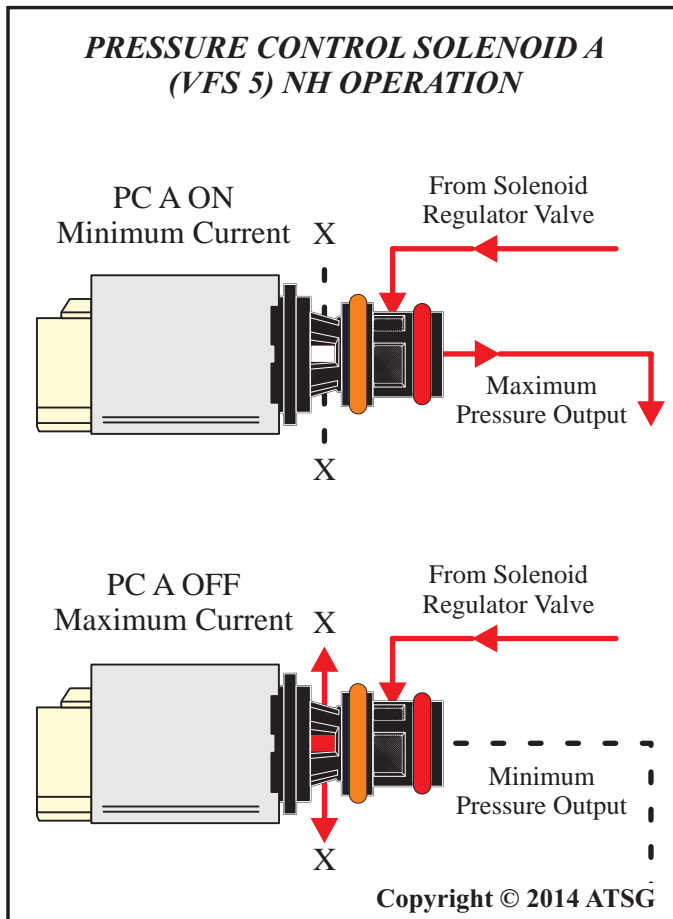

Figure 19
Pressure Control Solenoid A, or Variable Force Solenoid 5 is a Normally High (NH) or normally applied solenoid and uses inversely proportional control. The Mechatronic Control Unit, or PCM will vary the current through the solenoid circuit in order to control the output pressure through the solenoid. Looking at Figure 12 it can be seen that PC A is operated in every range and is TCM/PCM control condition dependent, meaning that current will be increased or decreased depending upon different engine controls and conditions. Refer to the diagram in Figure 19. The diagram illustrates that with minimum current applied to PC A, line pressure will be high, conversely with maximum current applied to PCA, line pressure will be low.